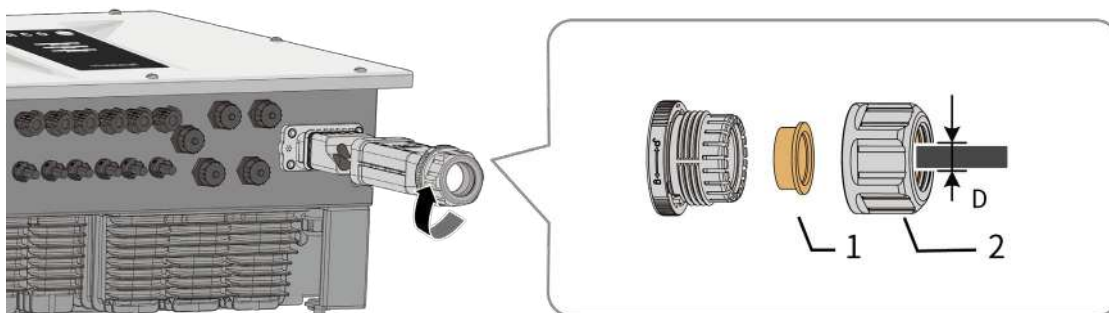

Fig. 15. Unfasten AC cable fitting
2. Unfasten the cable fitting for AC connection (see Fig. 15).